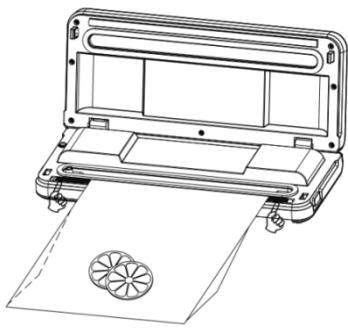

Figure 6
1. Open the upper lid, put the open end of the bag in the yellow heated strip of the appliance, and ensure that the bag is airtight and both sides of the open end of the bag align (**as shown in Figure 6**);